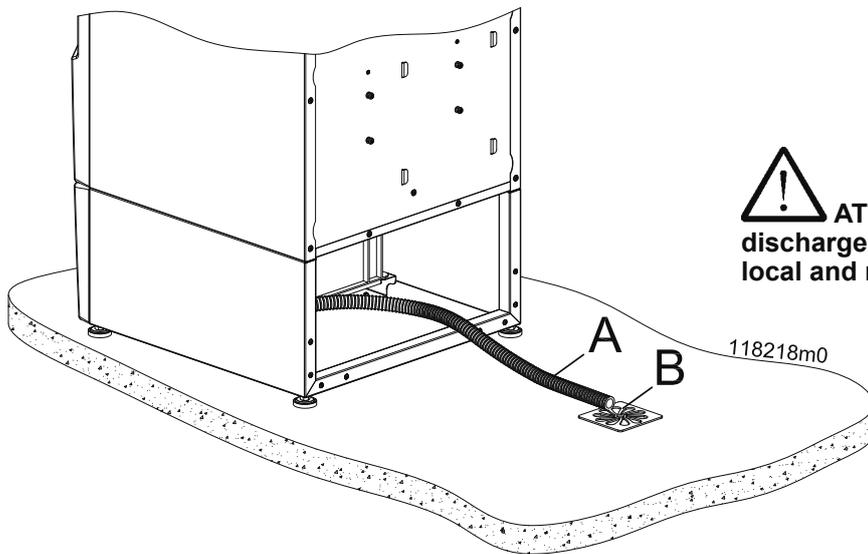

Figure 12-2 - Condensate drain
- Figure 12-2 shows how a condensate disposal system must be made downstream of the appliance.